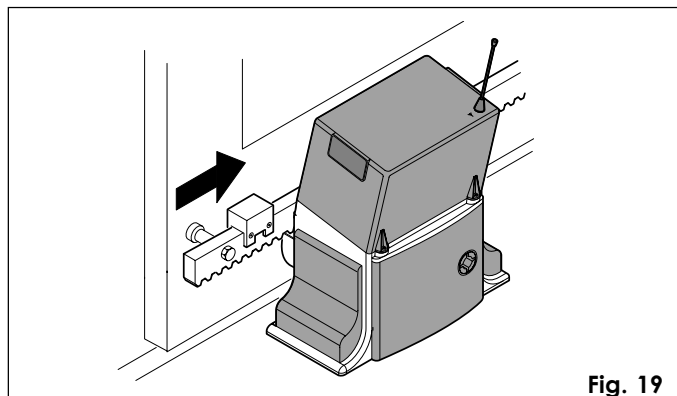

Fig. 19
- Slide the magnet on the rack (Fig. 19) until you see that LED1 on the control board goes off. Tighten the magnet's securing screws.